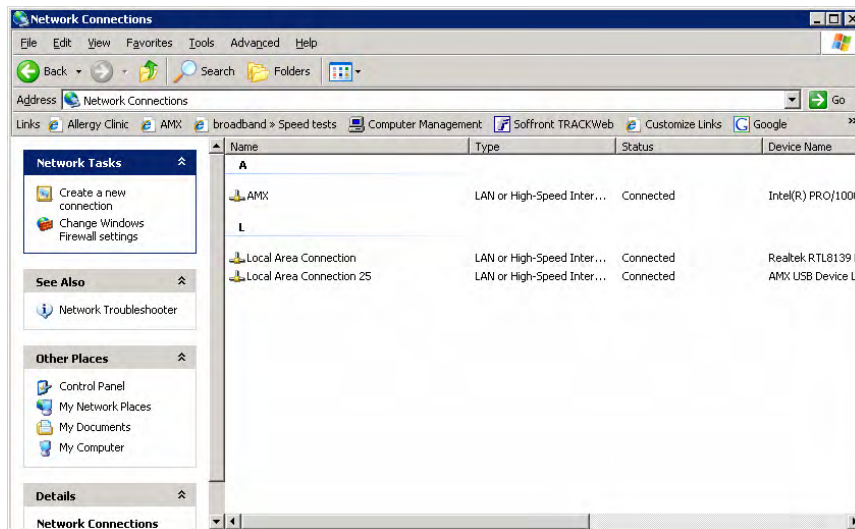

FIG. 86 Network Connections window
2. In the *Control Panel* window, click on the **Network Connections** icon to open the Network Connections window (FIG. 86)